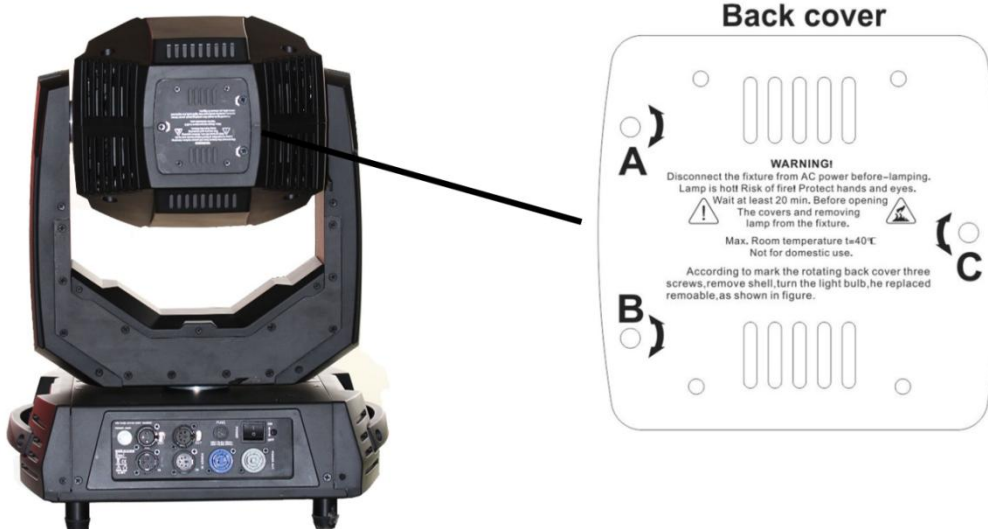

Figure 1 – Back cover
- Use a screwdriver to unscrew the screws (A-B-C) to open the back cover of the fixture.(Fig. 1)